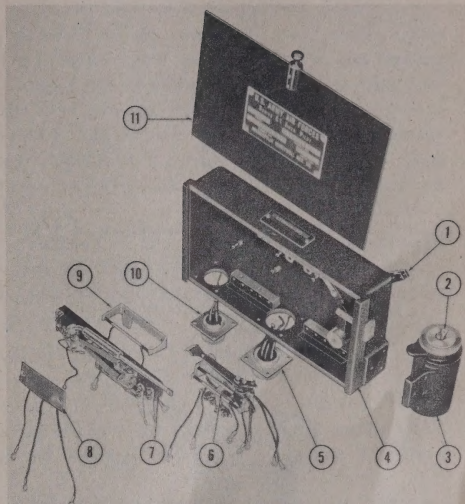

Figure 305 — Directional Panel, Exploded View
ASSEMBLY. (See figure 305.)
COVER ASSEMBLY. (See figure 305.)
(5) REMOVE THE TWO AN RECEPTACLE ASSEMBLIES. (See figure 305.)
(6) REMOVE THE ROCKER ARM MOUNTING BLOCK ASSEMBLY. (See figure 305.)—Lift the link pin retaining spring on the dash pot actuating bell crank assembly and rotate the spring out of the way so that the bell crank connecting rod link pin may be pulled out of place to disconnect the bell crank connecting rod from the bell crank assembly. Remove the two screws which attach the mounting block to the slide and remove the block assembly.
(8) REMOVE POTENTIOMETER ASSEMBLIES. (See figure 305.)